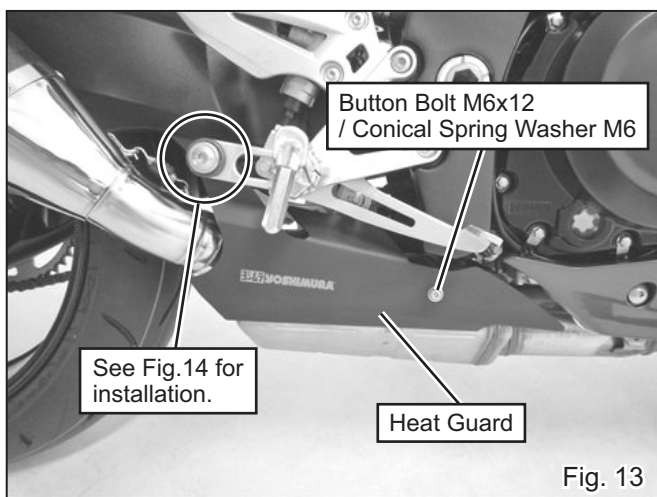

Fig. 13
- 11) Mount Heat Guard with Button Bolt M6x12, Conical Spring Washer M6, stock bolt, stock washer and stock nut removed at step 2) (See Fig. 13 & 14). Tighten and torque Button Bolt M6x12 and stock bolt.